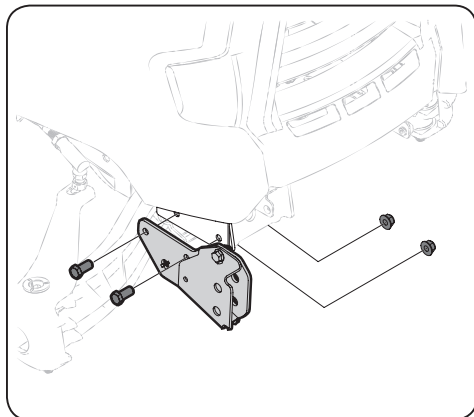

Figure 2-1
1. Attach FastAttach™ brackets (689-00685) (689-00686) to the outside of the tractor frame using 4 3/8 bolts (710-3001) and 4 locking nuts (712-04065) found in hardware pack 1 (689-00677). See Figure 2-1.